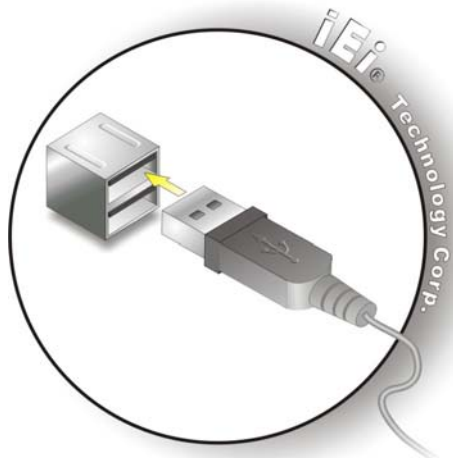

Figure 3-10: USB Connector
Step 1: Insert a USB Series "A" plug. Insert the USB Series "A" plug of a device into the USB Series "A" receptacle on the external peripheral interface. See **Figure 3-10**.